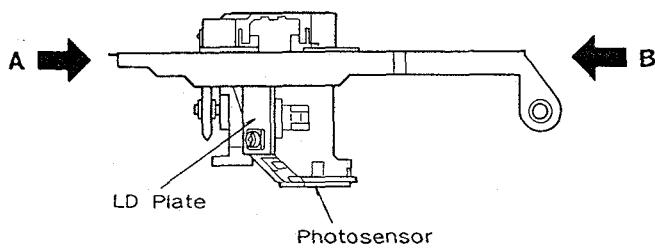

Fig. 4-1
- (1) Do not apply shocks to the assembly.
- (2) Do not touch the object lens.
- (3) Do not place the assembly in a place subject to excessive dust, heat or moisture.
- (4) Do not disassemble.
- (5) During the transportation, mounting and dismounting of the assembly, support with your fingers it at points A and B as shown in Fig. 4-1. Be particularly careful not to touch the actuator, photosensor and LD plate and do not apply force to them.
- (1) 落下、衝撃を加えない。
- (2) 対物レンズには手を触れない。
- (3) ゴミ・埃の発生する場所、高温・多湿の場所を避ける。
- (4) 分解はしない。
- (5) 持ち運び、取り付け、取り外しの際は、Fig. 4-1 のAとB部で支えてください。